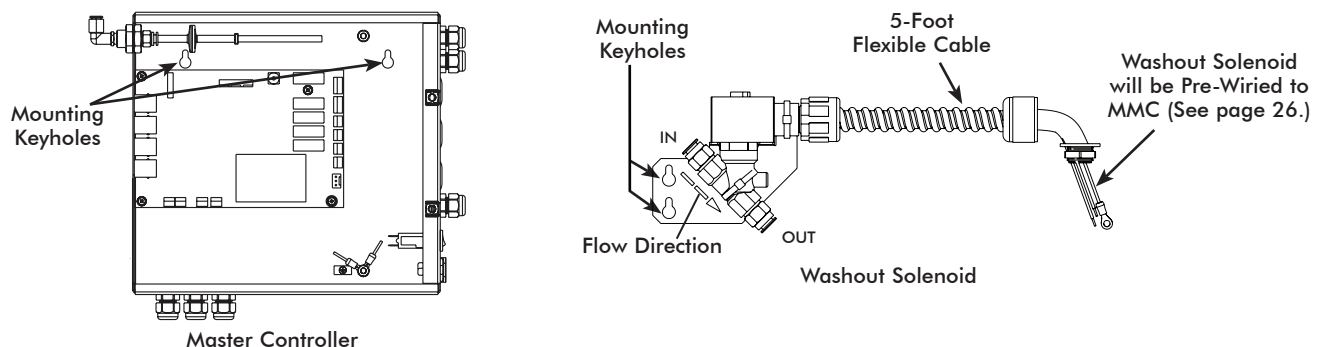

Figure 8. MOJAVE Master Controller and Washout Solenoid Optional Mounting
- C. SEWER DRAIN** - Provide a drain for the removal of waste liquids from the MOJAVE tank. Use an open drain pipe (1 1/2 inch P-Trap with 1 inch air gap or floor sink) or a closed vented drain. See Figure 8, sheet 2.